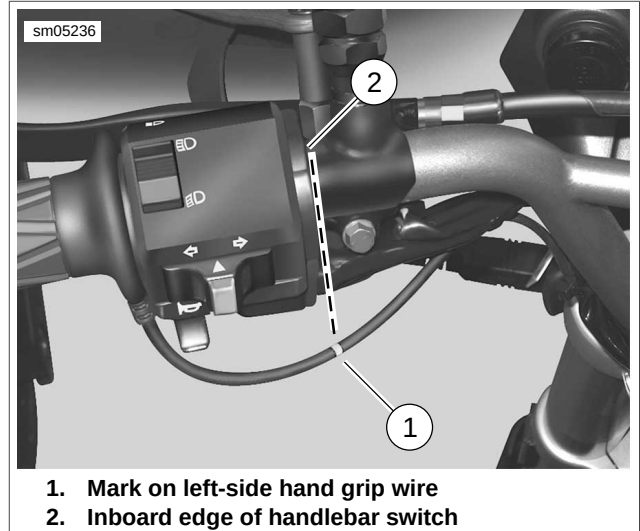

Figure 7-29. Painted Alignment Mark for Hanging Wire Loop, Left Side
- See Figure 7-29. The paint mark needs to be lined up visually with the inside edge of the right (and left) hand control.